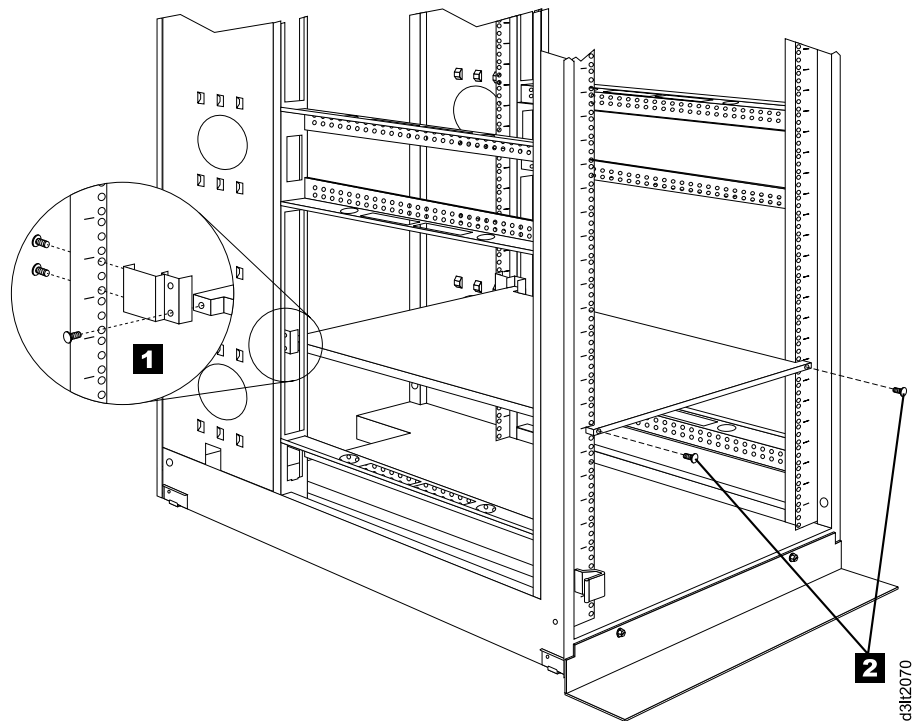

Figure 30. Attaching the shelf extender brackets
5. If you are installing the shelf with the extender brackets, attach the two brackets to the back corners of the shelf by using a single screw on each bracket (see **1** in Figure 30).
9. Insert two screws through the holes in the front flanges. Loosely thread the screws into the cage nuts in the front mounting rails (see **2** in Figure 30).
11. Insert two screws through the holes in each rear mounting rail and loosely thread the screws into the threaded holes on the shelf extender brackets (see **1** in Figure 30). Skips steps 12 through 16 and go to step 17 on page 86.